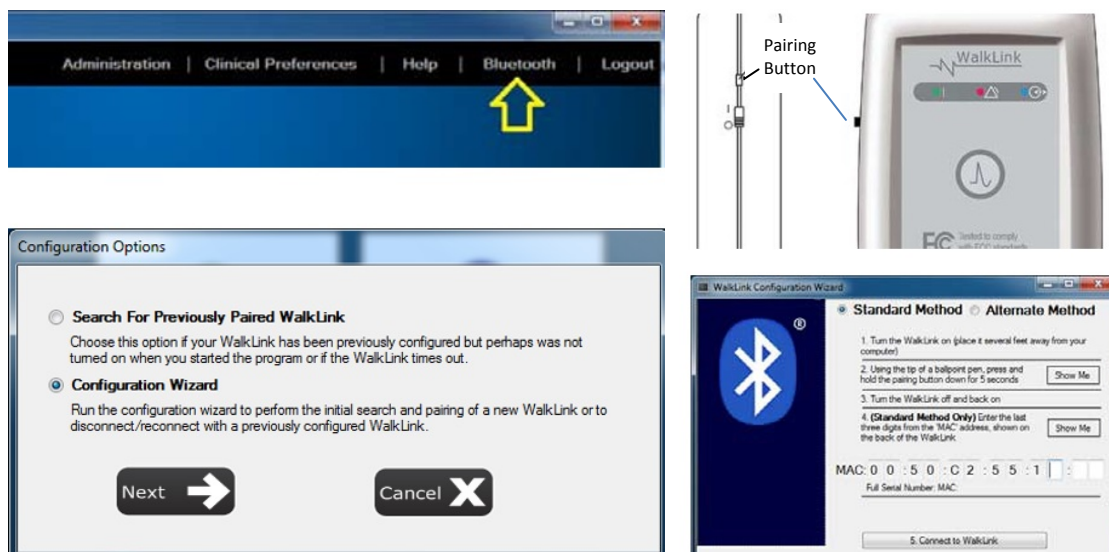

Figure 18: Pairing Process
4. Select Configuration Wizard and press the Next button. (Figure 18)
5. Turn ON the WalkLink: Green flashing light on the face of the WalkLink indicates the unit is ON. (Figure 18)
6. Reset the WalkLink: Using the tip of a pen or pencil, press and hold the Pairing Button (Figure 18) for 3 to 4 seconds. Turn the WalkLink OFF. Wait a few seconds and turn the power back ON.
8. Enter the MAC Address and Connect: Read the last 3 digits of the MAC address from the back of the WalkLink device and enter them in the appropriate boxes on the WalkLink Configuration Wizard screen (Figure 18) then press the Connect to WalkLink button. Press the Connect to WalkLink button again if WalkAnalyst fails to find the WalkLink. It may take about a minute to establish a connection to the WalkLink. When finished, a confirmation message will appear. Press OK to complete the initial configuration. The WalkLink will show a blinking blue light. The indicators for WalkAide and WalkLink on the WalkAnalyst screen will turn Green and Blue, respectively.